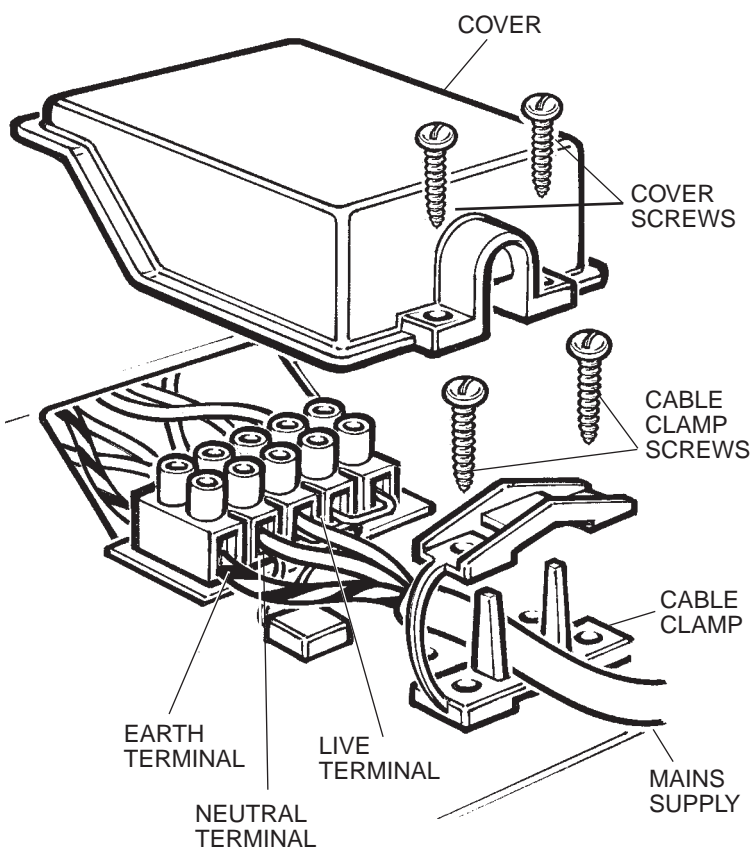

Figure 10 - connection box
1. Release the cover by removing the cover screws (Figure 10).
2. Loosen the cable clamp (Figure 10).
4. Secure the cable clamp. Check the cable terminals for tightness and ensure that the terminal links are in place, then close the cover over the terminal block (Figure 10).